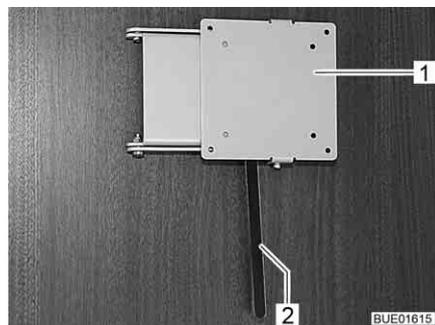

Fig. 100 Holder with release lever
- Push the release lever (Fig. 100,2) to the side and turn the holder (Fig. 100,1) with the flat screen to the desired position.
- Turn flat screen back until the holder (Fig. 100,1) engages in the lock.